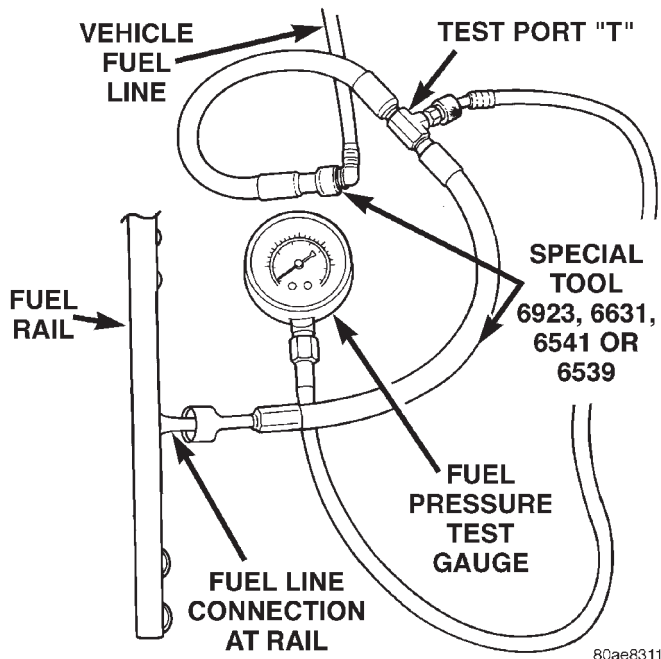

Fig. 8 Connecting Adapter Tool—Typical
(1) Disconnect the fuel inlet line at fuel rail. Refer to Fuel Tubes/Lines/Hoses and Clamps in this section of the group for procedures. On some engines, air cleaner housing removal may be necessary before fuel line disconnection.
(2) Obtain correct Fuel Line Pressure Test Adapter Tool Hose. Tool number 6539 is used for 5/16" fuel lines and tool number 6631 is used for 3/8" fuel lines.
(3) Connect correct Fuel Line Pressure Test Adapter Tool Hose between disconnected fuel line and fuel rail (Fig. 8).